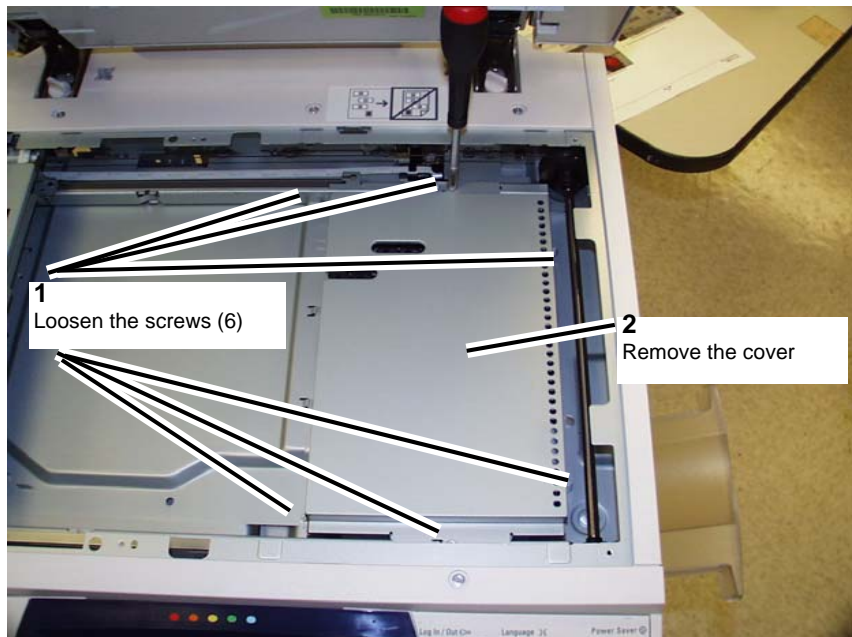

Figure 4 Removing Lens Cover
6. Remove the Lens Cover. (Figure 4)